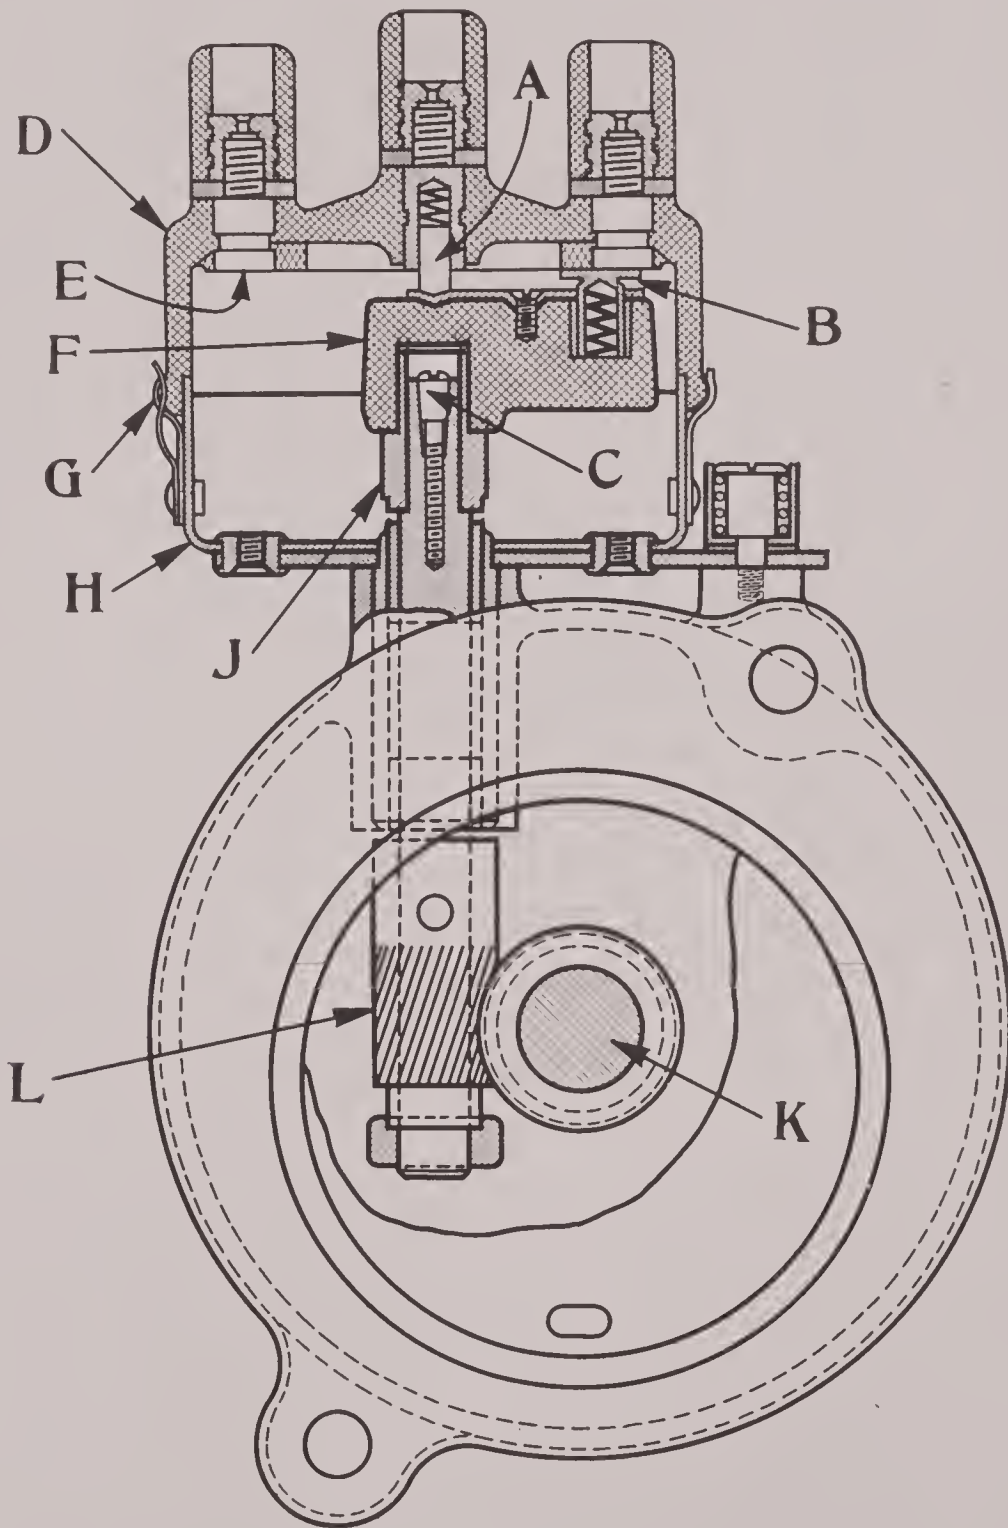

FIG. 239
A. Distributor brush. Instead of contacts as in Fig. 239, pins are molded in distributor head. These pins project through the head and are so placed that the end of brush swings past without touching them, the gap between pin and brush being about .015".
The illustration in Fig. 239 shows a section through a distributor. The distributor brush (F) fits on the end of the cam so that it must turn with the cam. As many distributor contacts (E) as there are lobes on the cam are molded in the bakelite head. The arrangement of the distributor contacts is shown in Fig. 240. An extra, or odd contact, is carried in the center. The secondary of coil connects to this central contact and the spark plugs to the other contacts. With the distributor head and brush in position the small carbon brush (A) (Fig. 239) forming the center contact, rests on the small metal strip at the top of the brush. As the brush revolves with the shaft, the small metal contact button (B) slides over the distributor contacts molded in the head, connecting one after the other to the center contact, thus switching one of the plugs at a time in the circuit with secondary of coil. The brush so fits on the end of the cam that contact button (B) is on a distributor contact when breaker points separate. The distributor head (D) consists of a bakelite body in which distributor pins, or contacts (E), are molded. These pins are equally spaced about the inside of the distributor cap and are connected through secondary cables to the spark plugs.
The illustration in Fig. 239 shows a section through one of the later types of Delco ignition-distributors. The distributor brush (rotor) makes a wiping contact on the distributor segments which are molded in the distributor head flush with the surface of the bakelite. The cam is locked on the shaft by a tapered screw that is threaded into the top of
C. Locknut for (A).
H. Breaker arm, grounded through spring (J) which rests against breaker housing and through the pin on which it is mounted.
J. Breaker spring which forces points together when lobe of cam is not under (D).
L. Tapered screw which locks cam on shaft. See (C) in Fig. 239. The cam can be loosened on the shaft for timing ignition by loosening this screw.